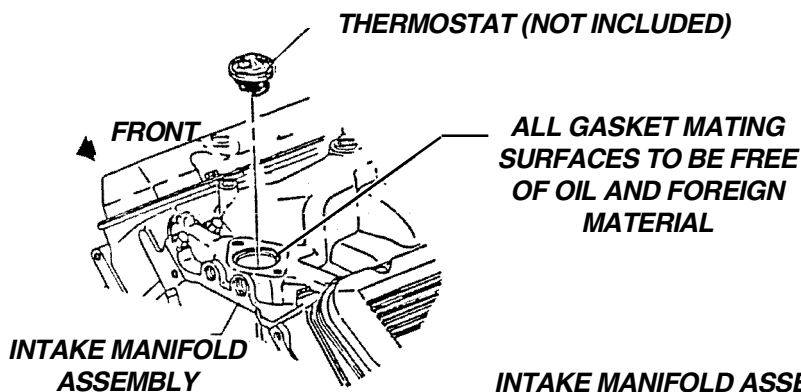

FIGURE 17
2. Install a thermostat in the intake manifold. Place a new thermostat housing gasket onto the intake manifold. Align the bolt holes on the gasket with the bolt holes in the intake manifold. Install a thermostat housing on the thermostat and the gasket. Apply thread sealer to the threads of the thermostat housing bolts. Torque the bolts to 25 ft-lbs. See Figures 17 and 18.